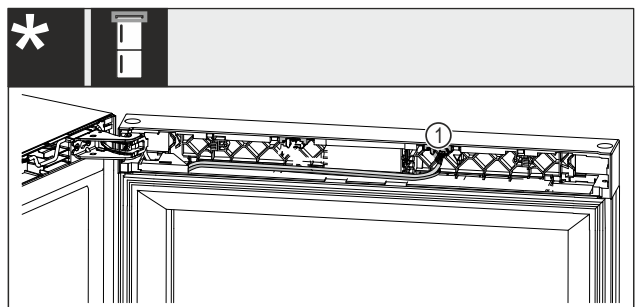

Fig. 23 Wine-freezer combinations*
- Pull the plug Fig. 23 (1) out of the retaining clip.*